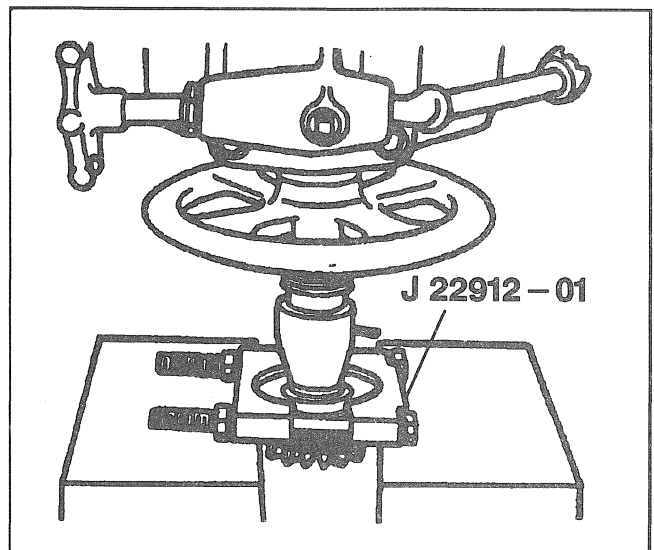

Figure 4—Removing the Thrust Sleeve
- Measure and record the overall length of the gear assembly from the front of the gear to the back of the side thrust sleeve (14) including the side gear thrust washer (13).
1. Guide clips (20).
2. Side thrust sleeve (14) using J 22912-01.
- Press the sleeve from the side gear (Figure 4).
3. Clutch plates (12).
4. Wave washer (15).
5. Cam plate (16).
6. Side cam gear (21).